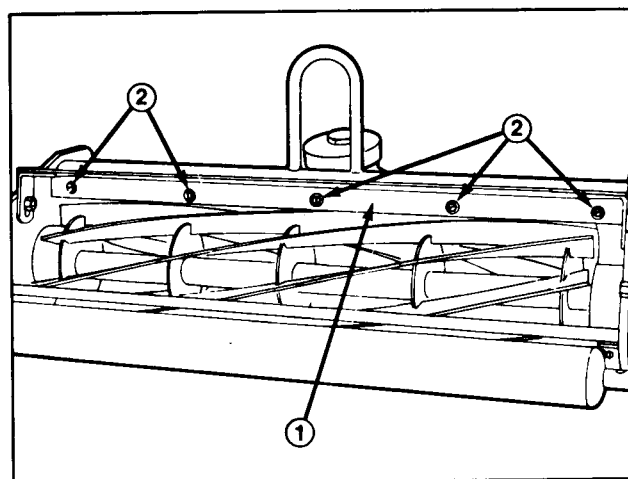

Figure 19
1. Loosen screws securing top bar (Fig. 19). Insert 0.060 inch feeler gauge between top of reel and bar and tighten screws. Make sure bar and reel are equal distance apart across complete reel.